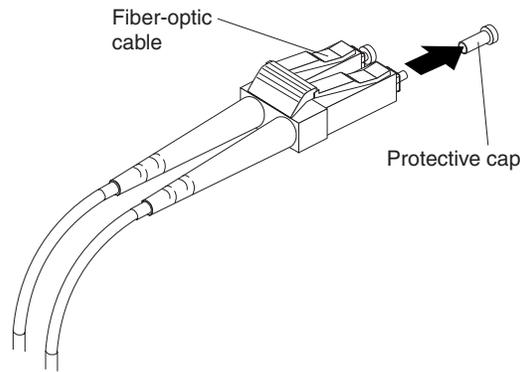

Figure 27. Removing caps from fiber-optic cables
1. Remove the protective cap from the fiber-optic cable. See Figure 27.